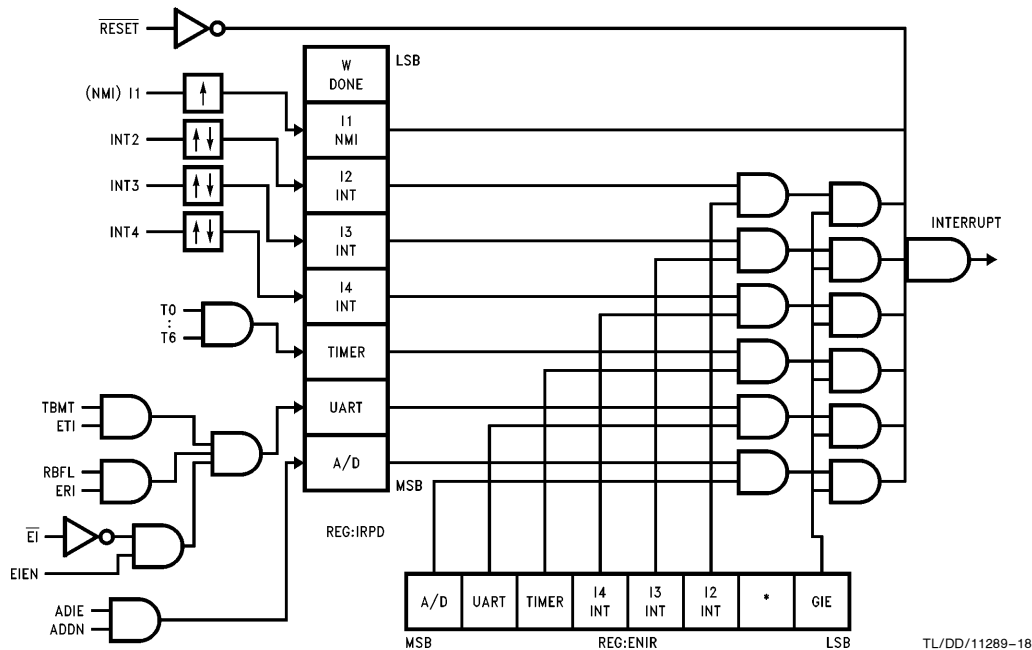

FIGURE 15. Interrupt Enable Logic
The Interrupt, once acknowledged, pushes the program counter (PC) onto the stack then incrementing the stack pointer (SP) by two. The Global Interrupt Enable bit (GIE) is copied into the CGIE bit of the PSW register; it is then reset, thus disabling further interrupts. The program counter is loaded with the contents of the memory at the vector address and the processor resumes operation at this point. At the end of the interrupt service routine, the user does a RETI instruction to pop the stack and re-enable interrupts if the CGIE bit is set, or RET to just pop the stack if the CGIE bit is clear, and then returns to the main program. The GIE bit can be set in the interrupt service routine to nest interrupts if desired. *Figure 15* shows the interrupt enable logic.